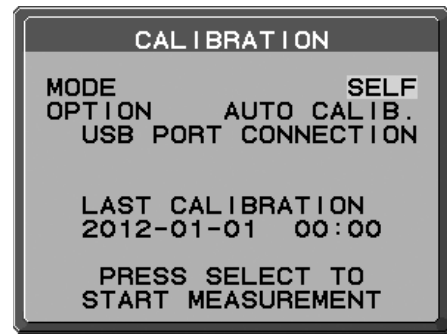

Figure S.2
2. Use “LEFT” or “RIGHT” to select SELF in the MODE selection (**Figure S.2**). Press “UP” or “DOWN” to move to the next selection.